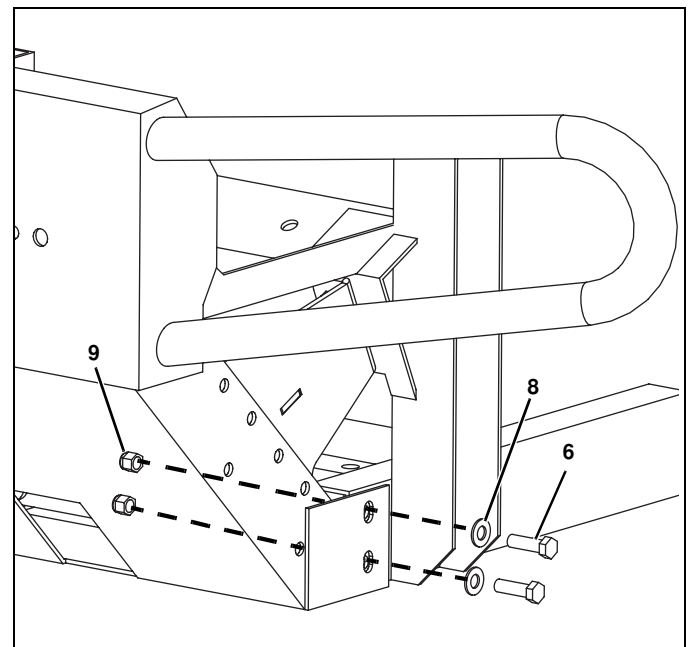

Figure 6
11. Mount the brush guard back into place, but use (4) 3/8"-16 x 1-1/4" Cap Screws (#6), (4) 3/8" Flat Washers (#8), and (4) 3/8"-16 Nylock Nuts (#9) for mounting the lower end of the brush guard. (See Figure 6.)